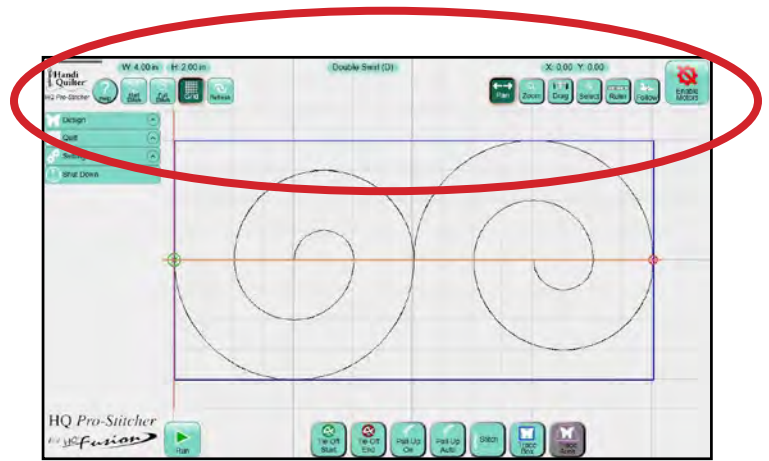

Figure 4.7
The most commonly used HQ Pro-Stitcher functions are across the top of the screen for easy access at any time during the designing process. Also visible at the top of the screen are the **name of the current design file**, the **size of the design**, and the **position of the crosshairs** (*Figure 4.7*). A letter displays next to the name of the current design file to indicate what type of design it is: (D) indicates it is a design; (G) indicates it is a grouped design; and (R) indicates it is a repeated design.